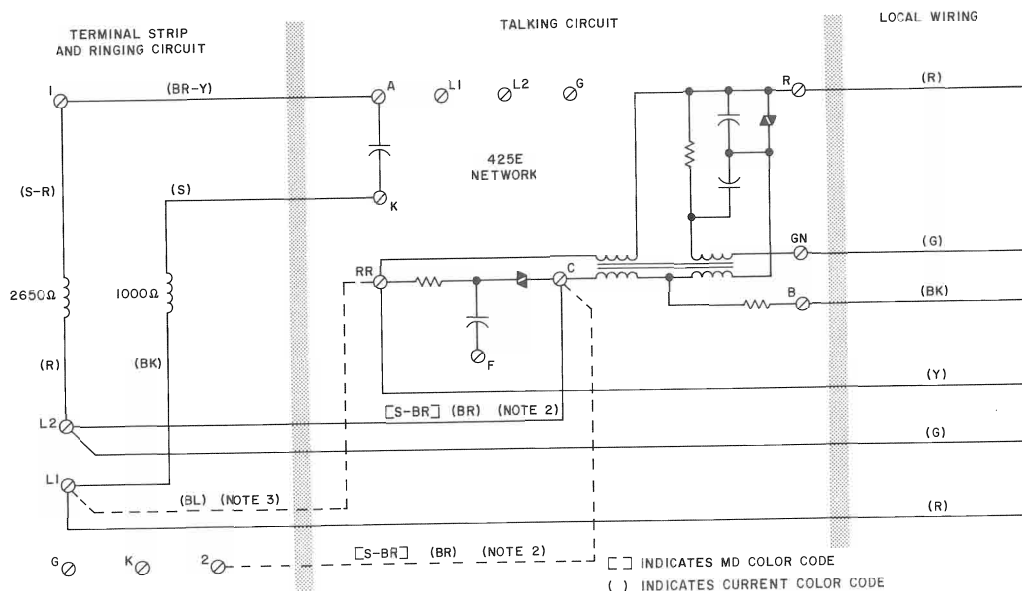

Fig. 1 — Circuit Diagram for Connections with Prepay Manual and Rotary Dial Coin Collectors
2.01 See Fig. 1 and Table A for circuit diagram and connections for prepay manual and rotary-dial coin collectors.